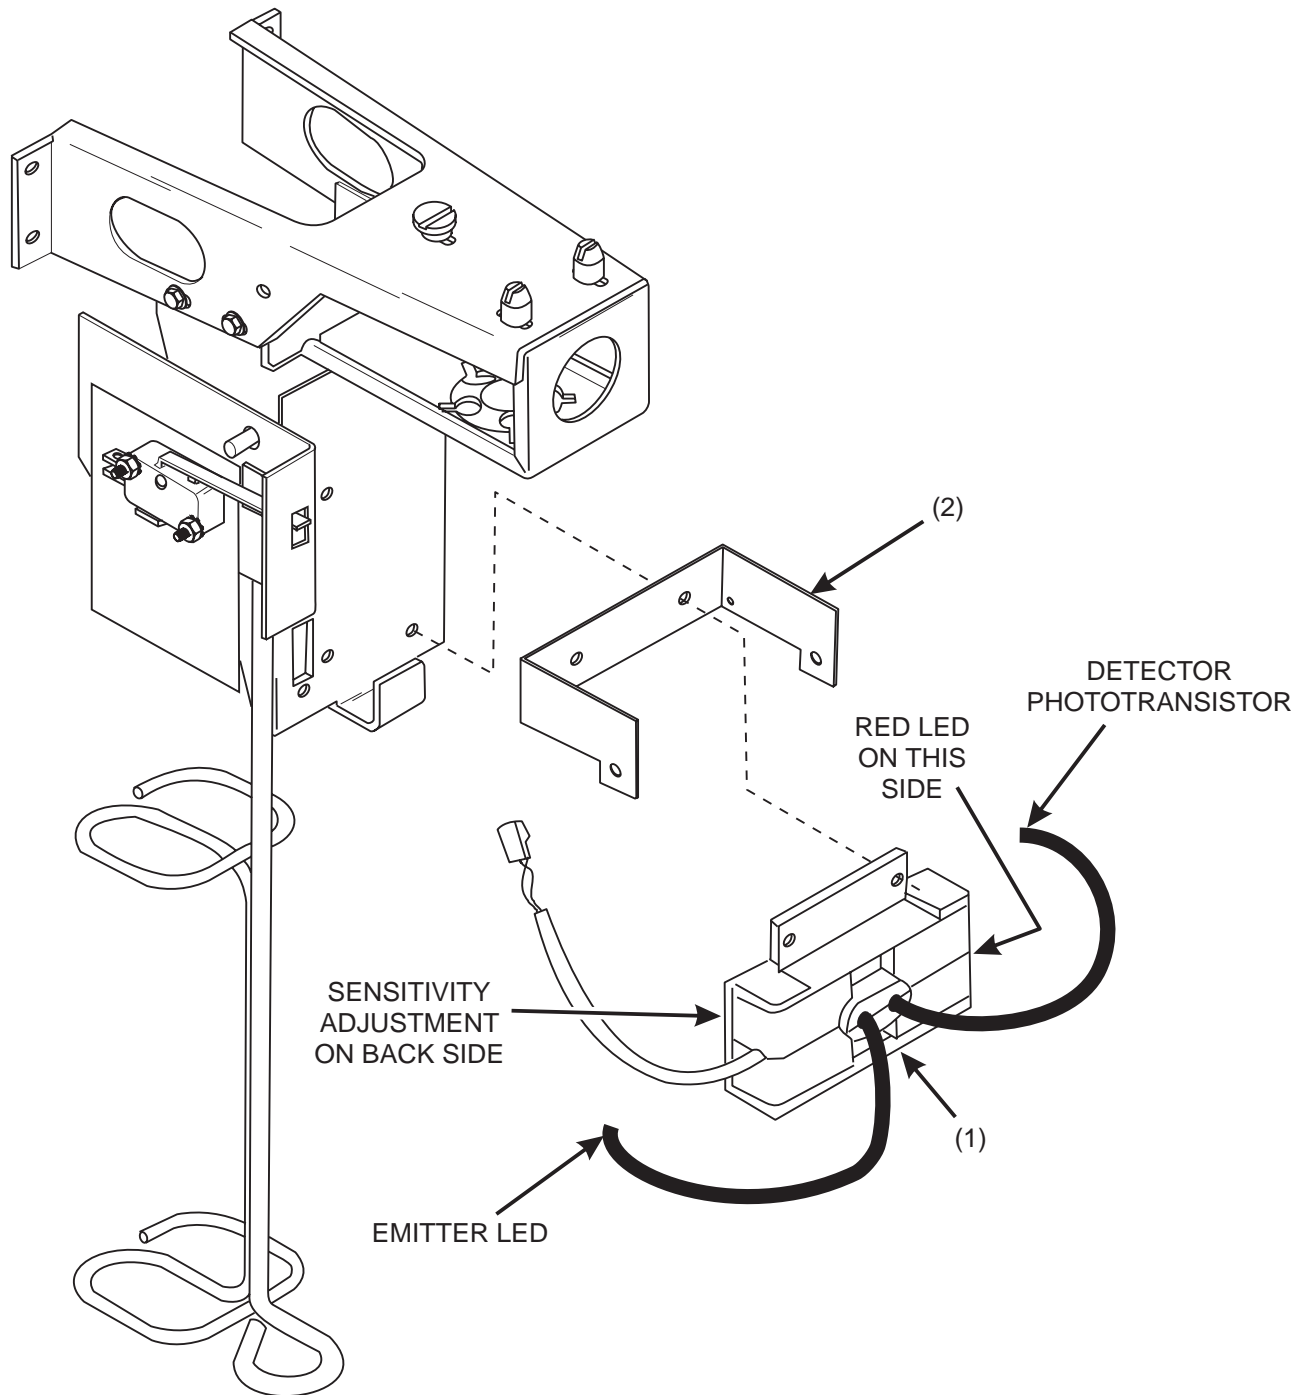

Figure 3
3. Install the mug sensor and bracket assembly, transmissive (1), and the LED bracket (2) onto the cup station support assembly as shown (figure 3). Use the mounting screws left over from step 2.
- b. With no mug or other object blocking the light beam, the red LED on the right side of the mug sensor and bracket assembly (see figure 3) should not be lit. If the LED is lit, adjust the sensitivity control (through the hole at the back of the mug sensor and bracket assembly) until the LED is off.
- d. When all tests and adjustments are complete, place the caplug (6) into the hole in the rear of the mug sensor and bracket assembly. This will help prevent moisture and liquids from entering the assembly housing.